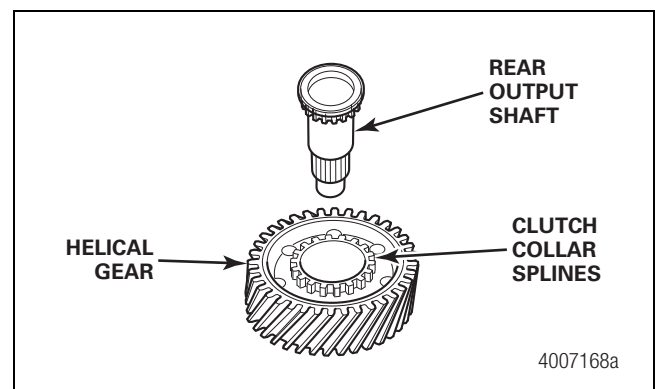

Figure 6.12
2. Align the internal splines of the high range helical gear with the shaft splines and install the gear onto the shaft. Ensure that the clutch collar gears are facing UP. Figure 6.12.